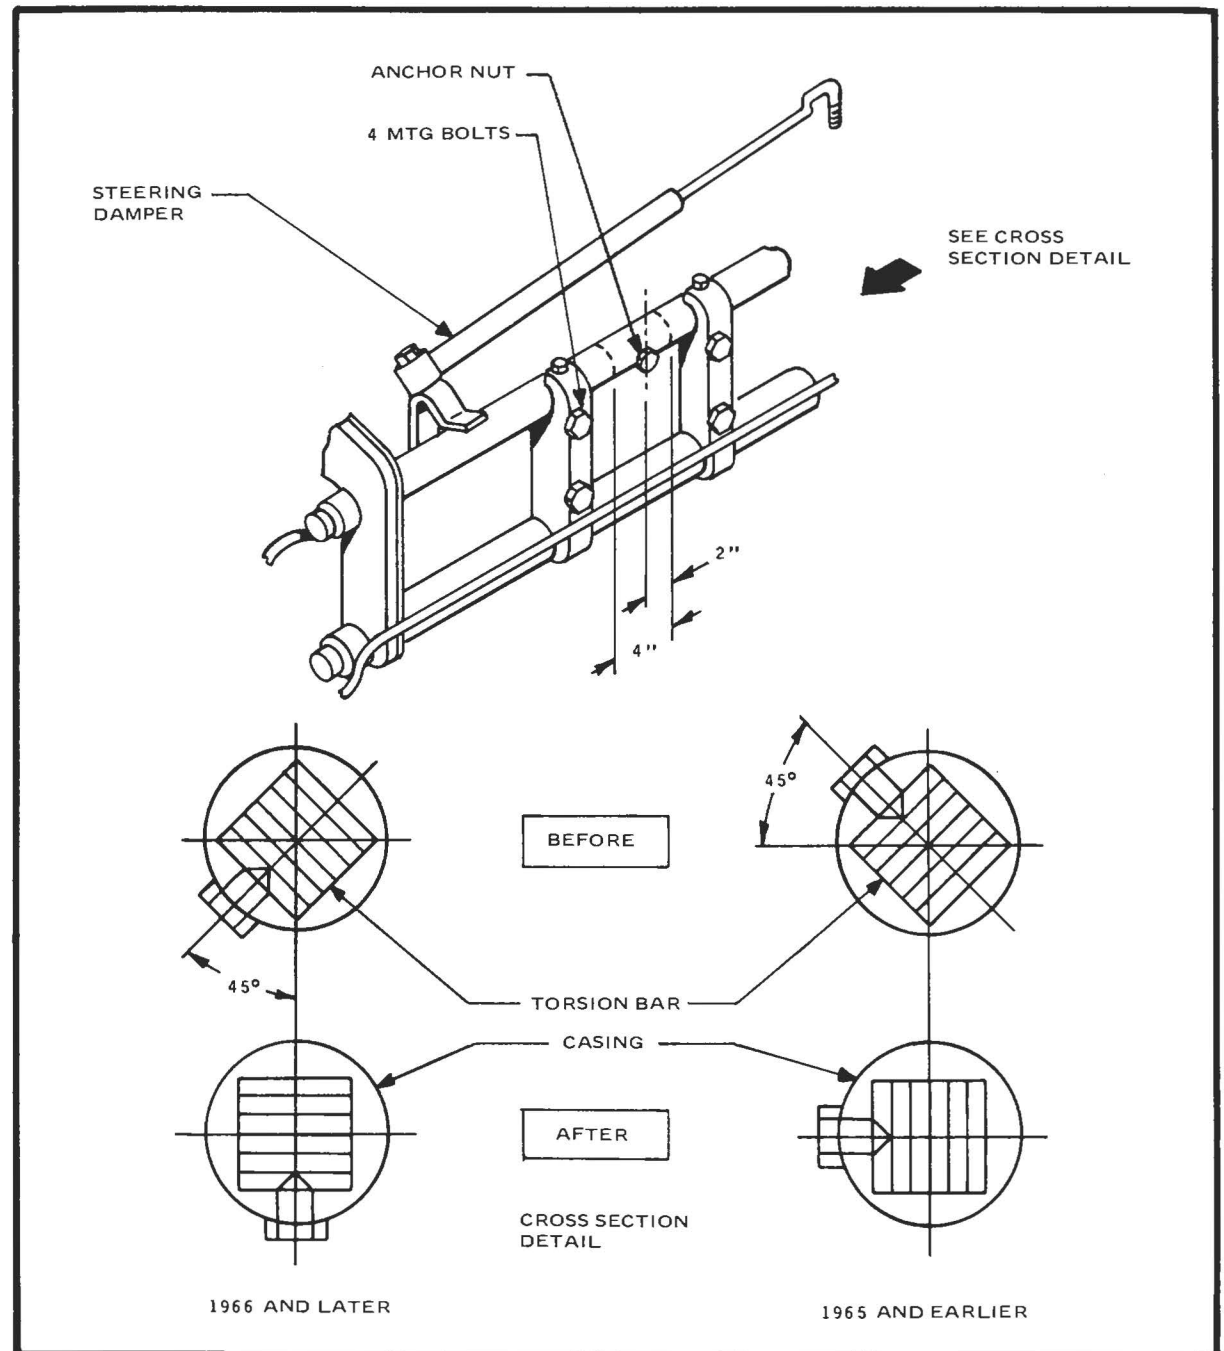

Figure 13
- ☐ Jack up chassis and support pan on jack stands. Remove torsion tube assembly by removing 4 mounting bolts located on the front of the assembly. (Refer to Figure 13)